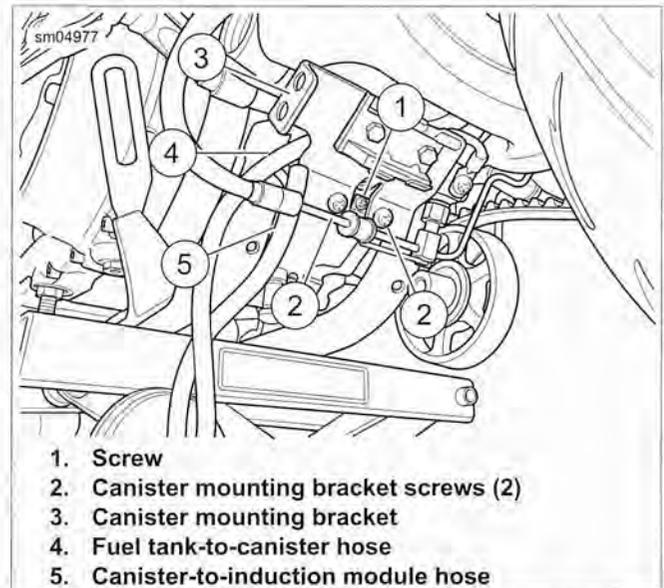

Figure 4-91. Charcoal Canister Mount: XR 1200X
- See Figure 4-91. Route both hoses up past canister mount and between rear fork pivot point and rear end of crankcase as shown.